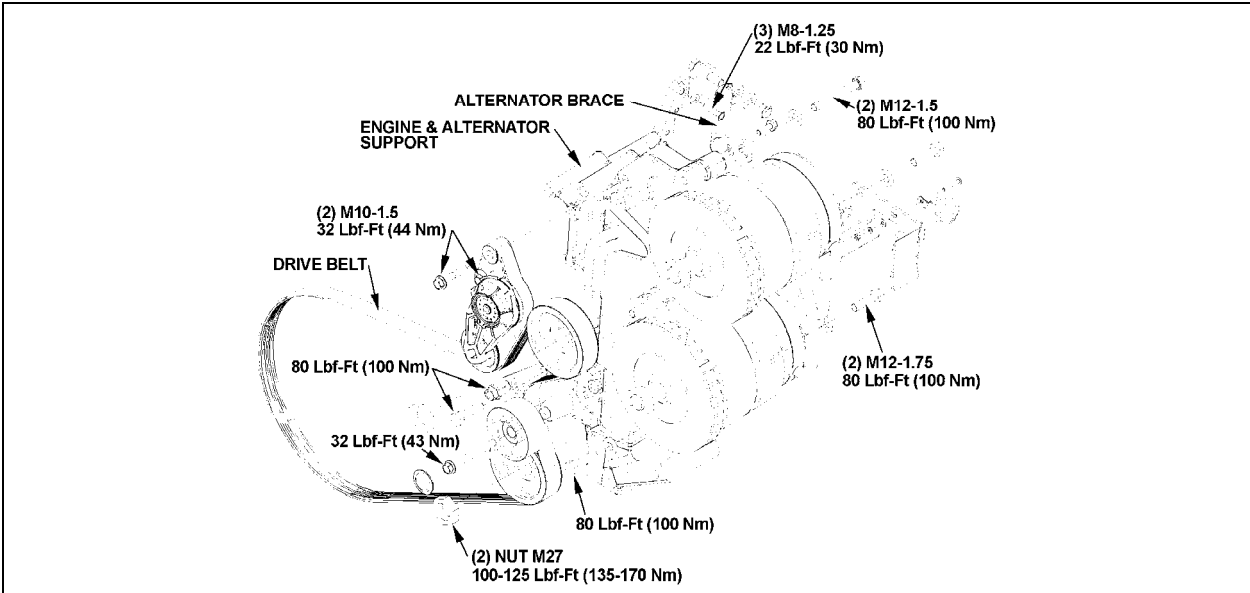

FIGURE 22: BOSCH ALTERNATORS MOUNTING TORQUES (VOLVO D13)
If the alternators needed to be removed, reinstall as follows. Refer to figures 22 and 23 for installation and tightening specifications:
1. If not already done, mount the alternator brace to the engine and alternator support (figure 22).
2. Bolt the alternators to the bracket using one 3.5 inch bolt at the top and two 1¾ inch bolts at the lower mounting bosses (fig. 22).
2. Insert a ¾" socket drive into the automatic belt tensioner opening (Fig. 22).